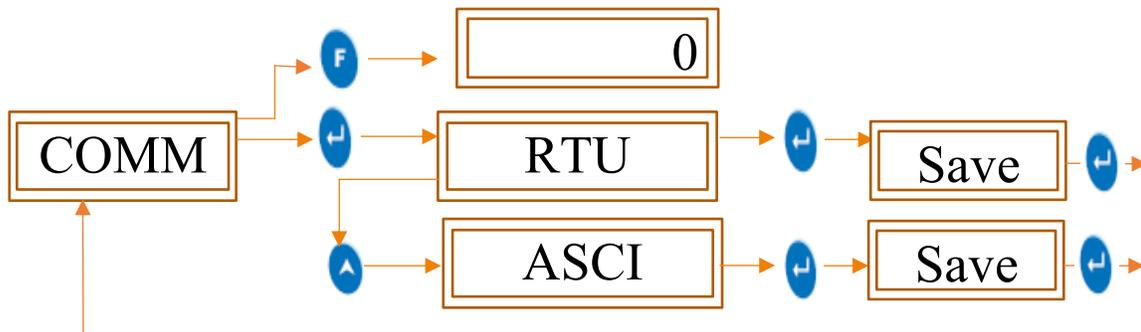

Figure 27 COMM (Communication Type)
- To set the communication type select the options as shown in figure 27.